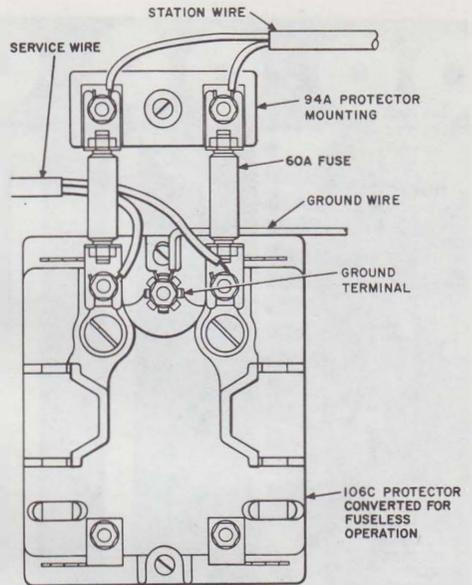
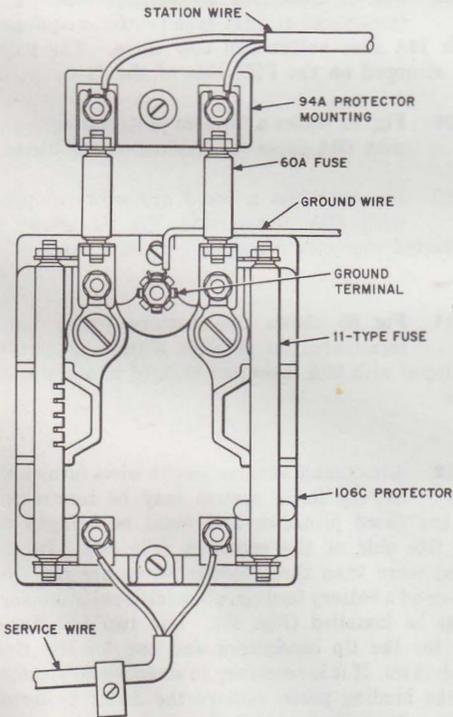

Fig. 84—60A Fuses Used With 94A Protector Mounting and Converted 106C Protector
Fig. 83—60A Fuses Used With 94A Protector Mounting and 106C Protector
11.10 Fig. 83 shows a fused protector equipped with 60A fuses, and Fig. 84 shows a converted protector equipped with 60A fuses.